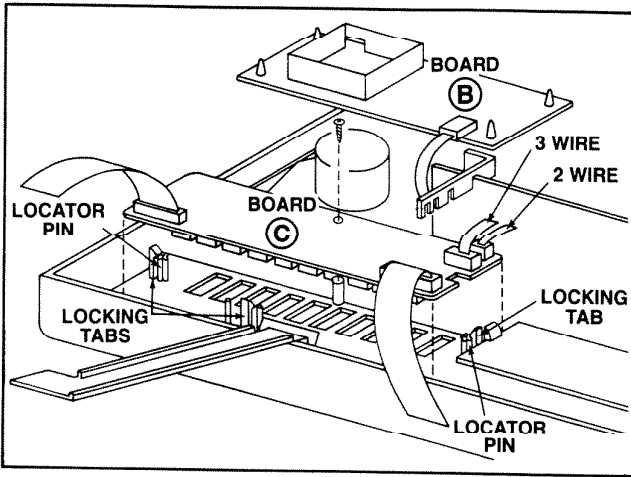

FIGURE 8
3. Install Board (C) supplied with the kit. Refer to Figures 8 and 9.
- (a) Be sure board is located and seated on locator pins. See Figure 8.